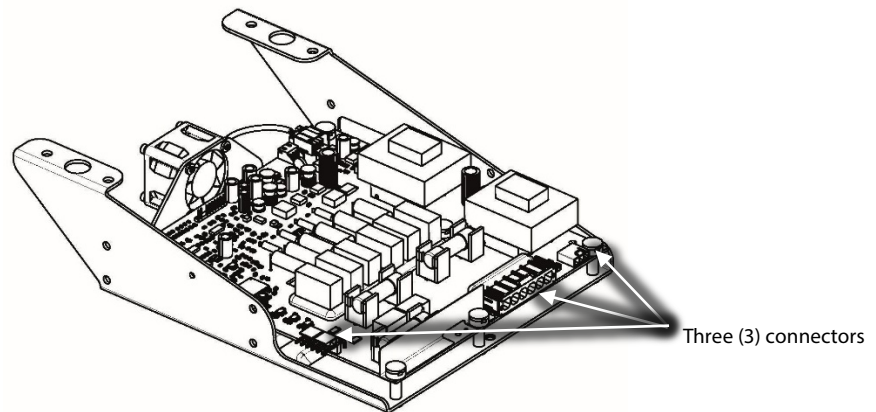

Figure 5 – Soft Start Harness Removal
12. Unplug the cable connectors from the Soft Start board. Refer to Figure 5 (Soft Start Harness Removal).